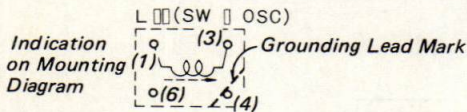

Fig. 3
A coil is connected between pin (1) and pin (3) at each SW OSC coil; L10, 11, 12, 13 and 14 as shown in Fig. 3.